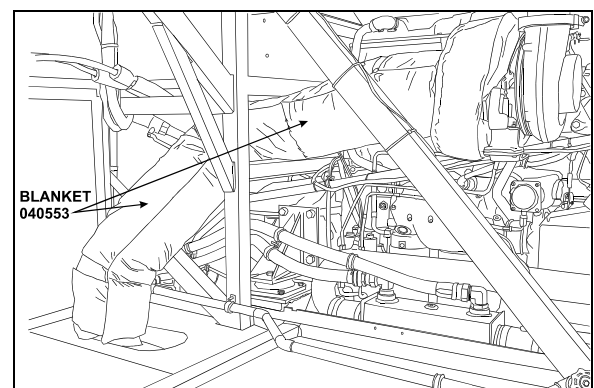

FIGURE 4: EXHAUST BLANKET INSTALLATION
2. Locate splash guard panel located at rear of vehicle (behind L.H. side tag axle wheel), then remove, cover bellows and exhaust pipe with 2-piece blanket #040553 (Fig. 4). Use velcro to secure blanket in place.
2. Locate splash guard panel located at rear of vehicle (behind L.H. side tag axle wheel), then remove, cover bellows and exhaust pipe with 2-piece blanket #040565. Refer to figure 4 showing installation on XL2-45 shells. Use velcro to secure blanket in place.